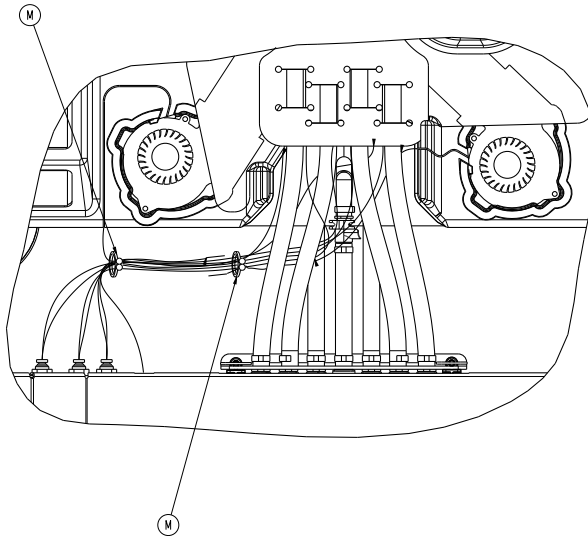

Figure 1-27: Purse lock wire tie
12. Remove the two purse lock wire tie (M) (Figure 1-27 on page 1-54). Save the purse lock wire ties.